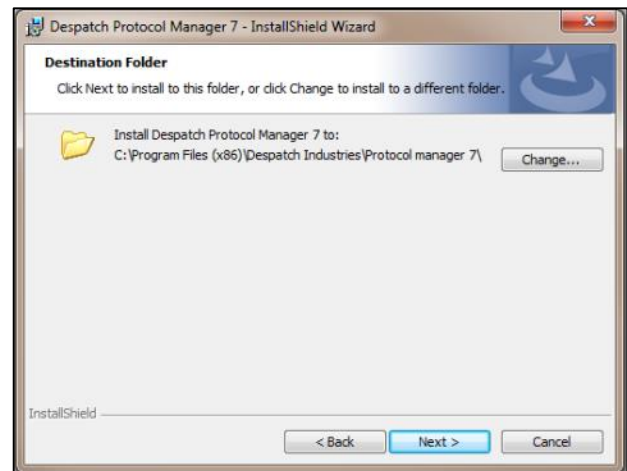

Figure 7. Destination Folder Screen.
9. Follow directions for the Destination Folder screen, changing location as necessary by pressing **Change....** (Figure 7)